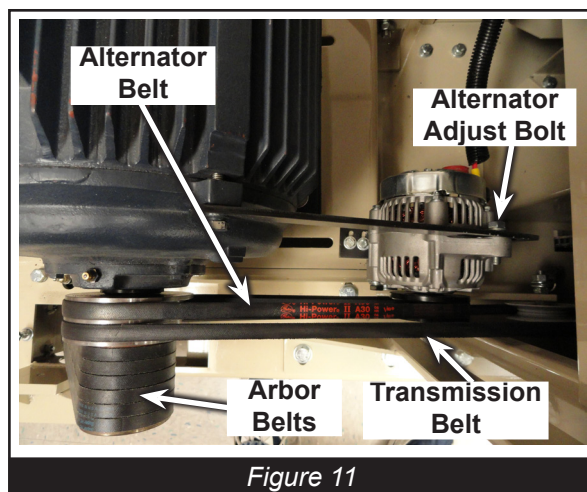

Figure 11
- To replace the alternator belt the previous steps have to be performed first. Once previous steps are completed loosen the alternator adjust bolt (Figure 11) and move the alternator towards the electric motor. It might be necessary to loosen the bolt at the base of the alternator so it moves freely. Remove the belt from the alternator and motor sheaves. Replace the belt and tighten by reversing this procedure.